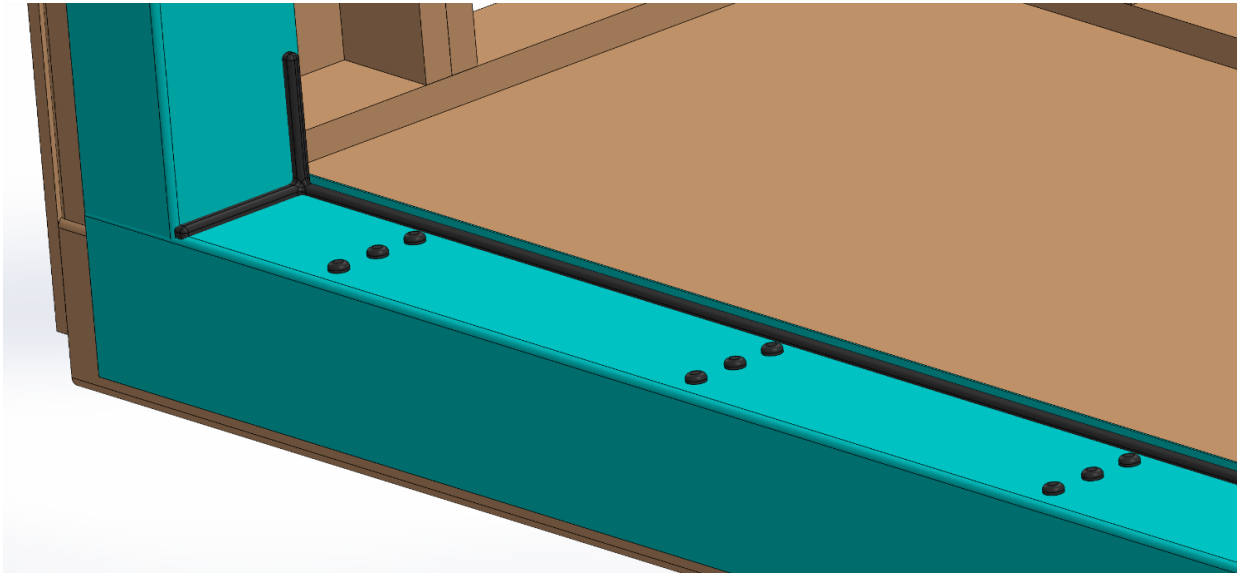

Figure 9
14. With the sill assembly removed, and clean from debris, apply a 1/2" bead of sealant to the floor from jamb to jamb along the exterior edge of the mark previously applied to the floor. The sealant should be applied in a U-shape to ensure a proper and complete water-barrier has been accomplished across the full width of the sill opening. Sealant should also be applied a minimum of 6" up each side. See **Figure 9**.